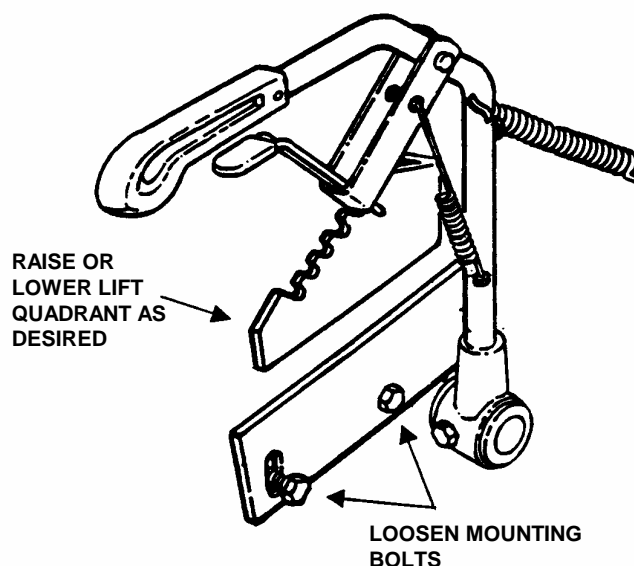

FIGURE 4.6
3. Loosen lift quadrant mounting bolts. Raise or lower lift quadrant as desired. See Figure 4.6.